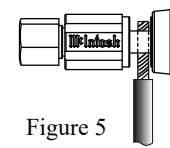

Figure 5
2. Connect the Loudspeaker hookup cables to the ML1 Negative (-) Input Terminal and Positive (+) Input Terminal. Insert the spade lug connector or prepared section of the cable end into the Input Terminal side access hole, and tighten the Input Terminal cap until the cable is firmly clamped into the terminals so the lugs or wire cannot slip out. Refer to figures 5 and 6.
- Referring to the illustration connect the Loudspeaker hookup cables to the ML1 Negative (-) Input Terminal and Positive (+) Input Terminal. Insert the spade lug connector or prepared section of the cable end into the Input Terminal side access hole, and tighten the Input Terminal cap until the cable is firmly clamped into the terminals so the lugs or wire cannot slip out. Refer to figures 5 and 6. Then connect cables to the ML1 HIGH/MID Negative (-) and Positive (+) Input Terminals.